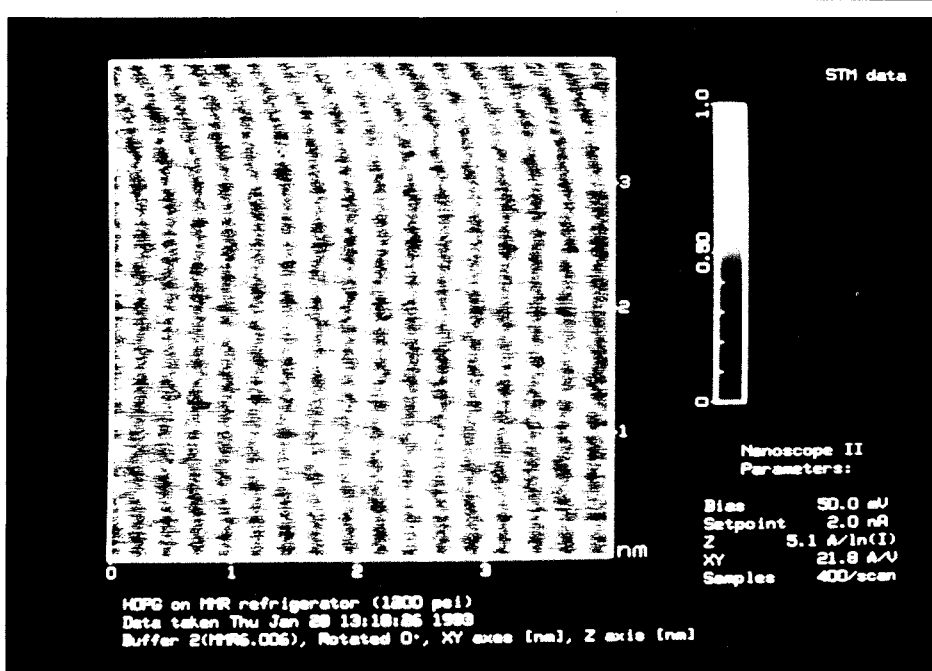

FIGURE 9
- Figure 9:** STM image with gas flowing, inlet pressure of 1200 psi. Vibration amplitude is less than 2.4 angstrom.